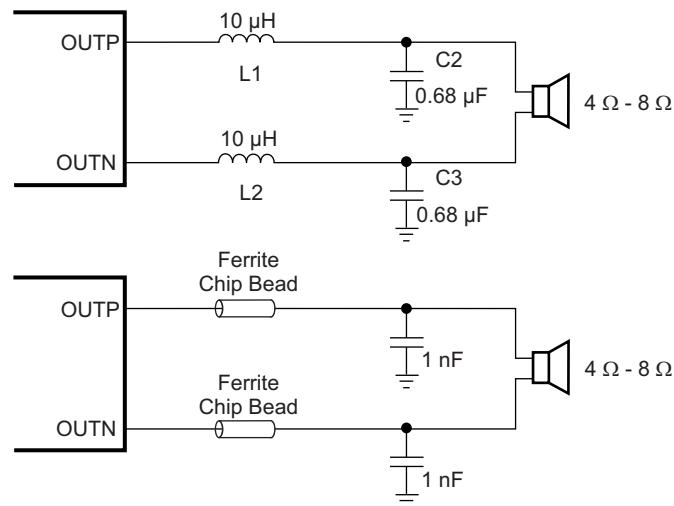

Figure 33. TPA31xxD2 Output Filters
- **Output filter** — The ferrite EMI filter (see Figure 33) should be placed as close to the output terminals as possible for the best EMI performance. The LC filter should be placed close to the outputs. The capacitors used in both the ferrite and LC filters should be grounded.